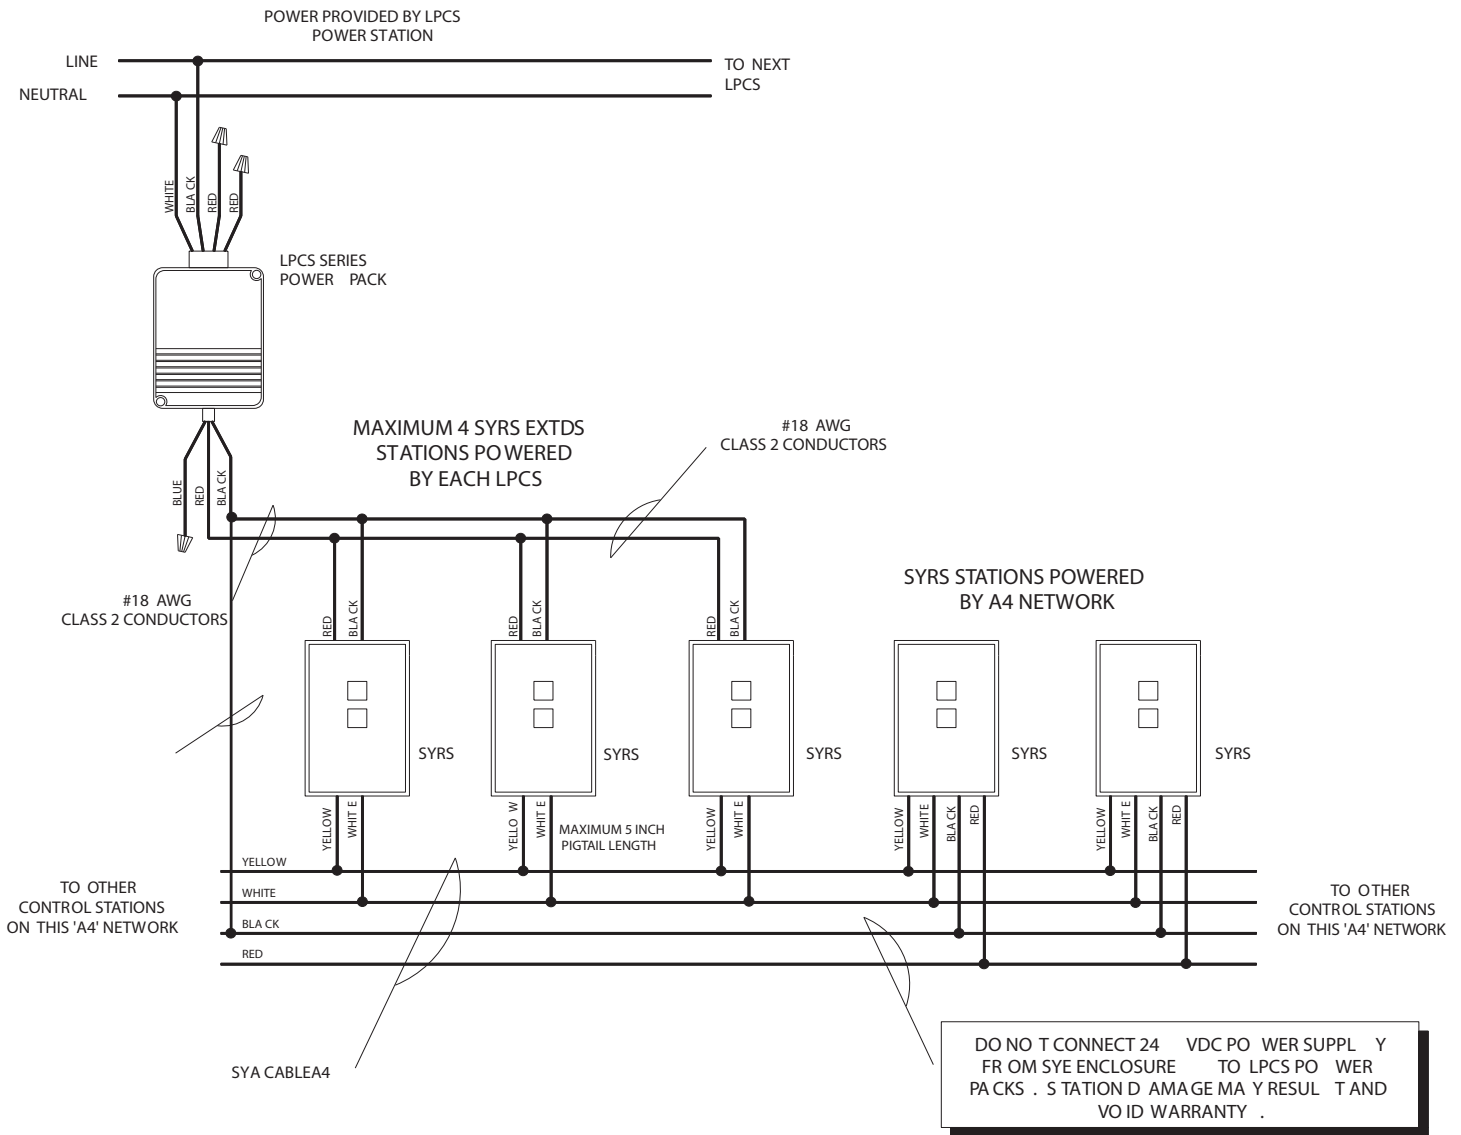

**Figure 4 - SYRS EXTDS Remote Station Network - Typical Wiring
2. Connect A4 network wiring as shown in *Figures 4 or 5*.
The A4 network must be properly terminated for proper operation. The device residing at each end of the network **MUST** be terminated. The SYSC system controller is normally located at one end of the network and ships from the factory with termination activated. If an SYRS station is at the end of the A4 network it must be terminated. (See *Figure 6* for dip switch settings) If SYRS stations are located at both ends of the network, BOTH SYRS stations must be terminated and the factory applied A4 network termination on the SYSC system controller **must** be removed. (See the SYSC system controller jumper settings in *Figure 4* to unterminate the controller)